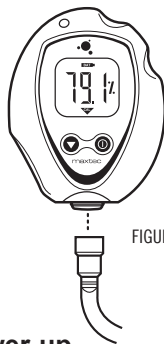

FIGURE 2
1. Connect the Tygon tubing to the bottom of the analyzer by threading the barbed adapter onto the oxygen sensor.(Figure 2)